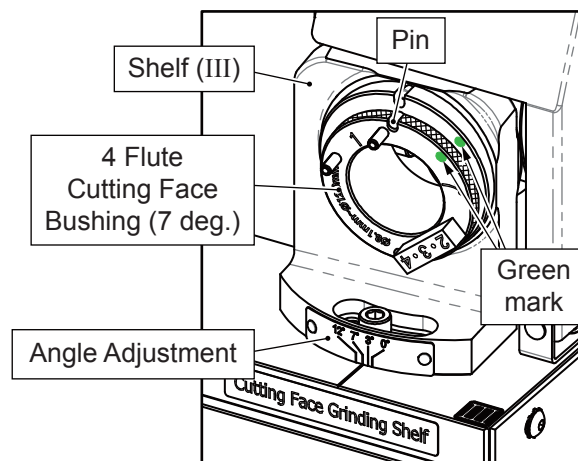

Fig. 11-4
- The diameter from $\Phi 8.1 - 12.0$ mm. (Fig. 11-4)
- ① Adjust Shelf (III) to 7° .
- ② Insert 4 Flute Cutting Face Bushing (7 deg.) to Shelf (III), align the ● Green mark of the Bushing with the ● Green mark on the shelf, then insert it to the end.